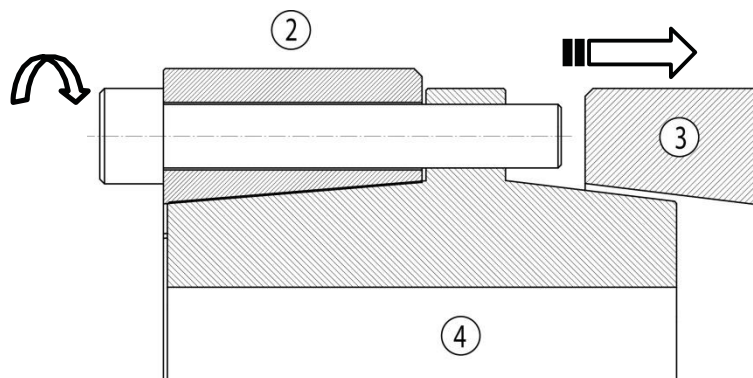

Figure 6
1. Remove all cylinder screws (5) and screw as many into the push off threading of the centre ring (4) as described in Figure 6.